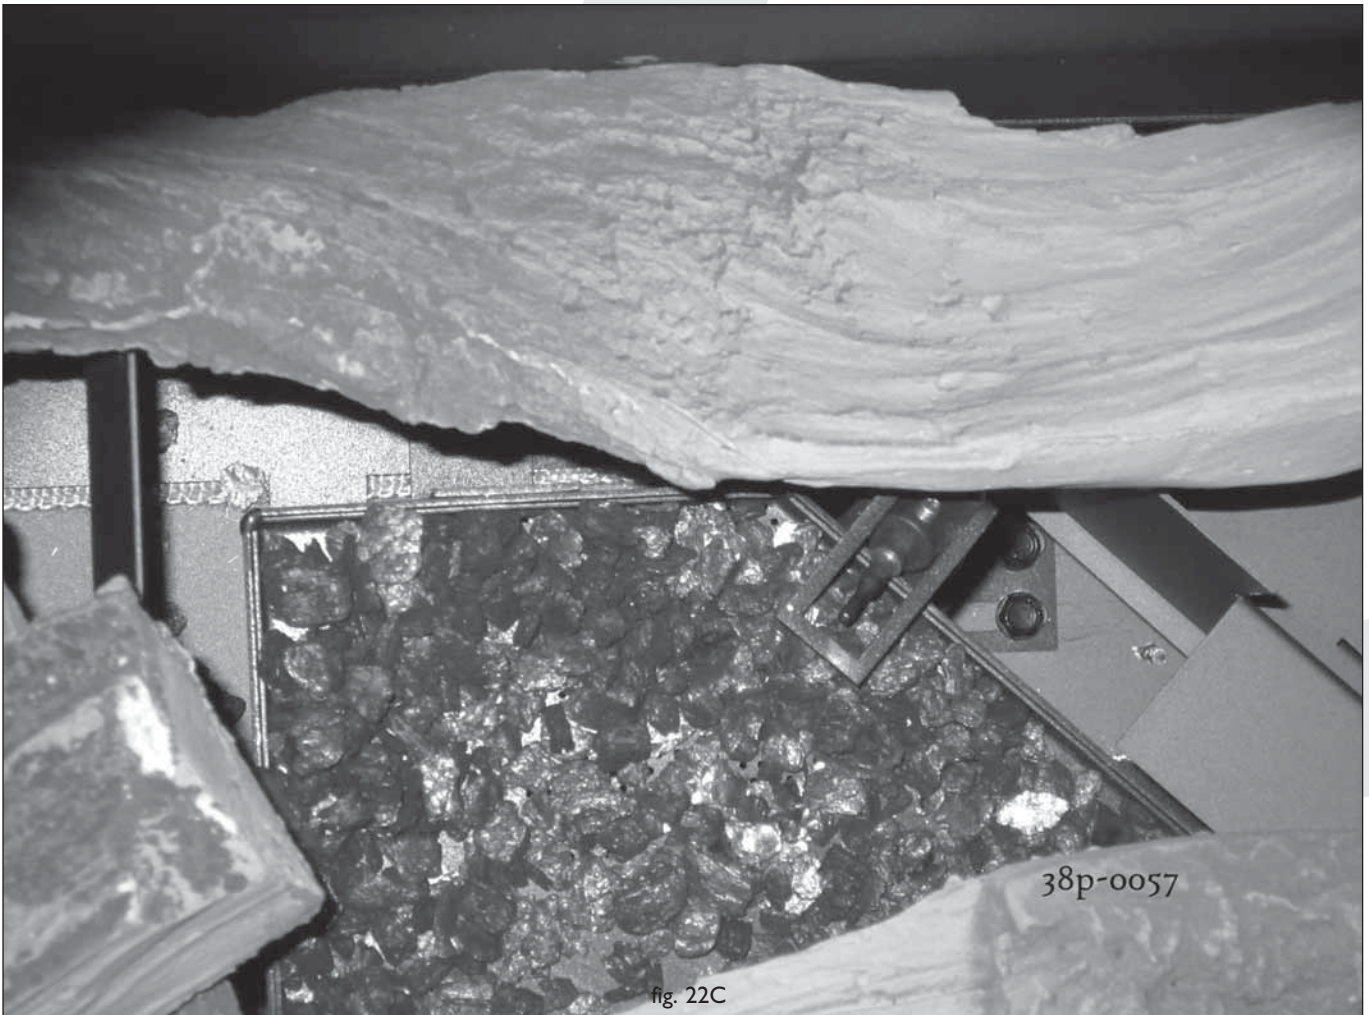

fig. 22C
- Make sure thermocouple 2 and the space around it are kept free (see Fig.22C).